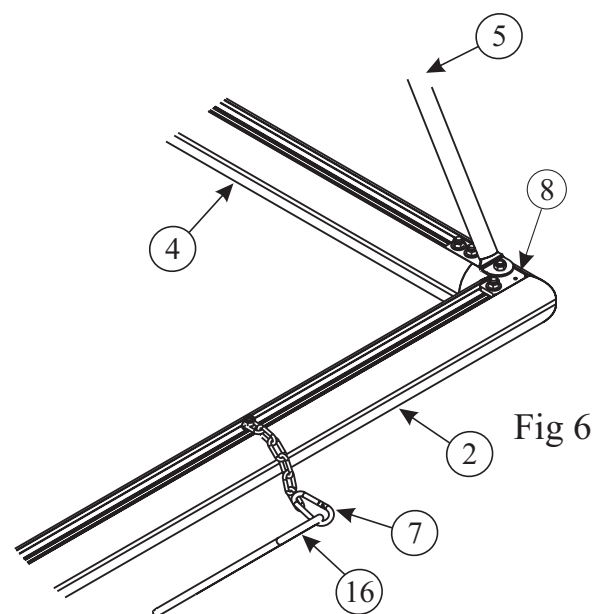

Fig 6
5 Backbar - Place the backbar behind the goal, with the slots facing upwards. Then slide 3 square headed bolts into the slots at both ends of the backbar, and 2 square head bolts into the ends of the sidebars. Slide the backbar onto sidebars as shown in Fig. 2.3. Place the Corner Plate (8) over the bolts and attach the net support to the first bolt. Secure with washers and bolts. As shown in Fig. 6.